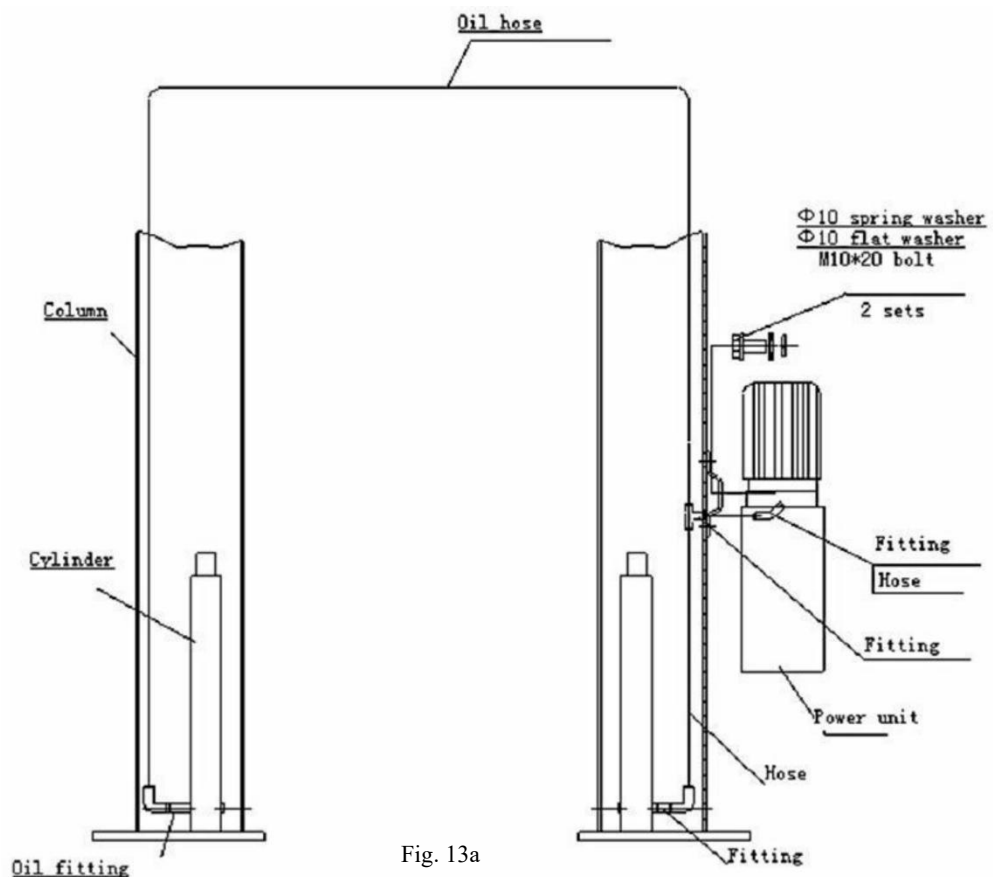
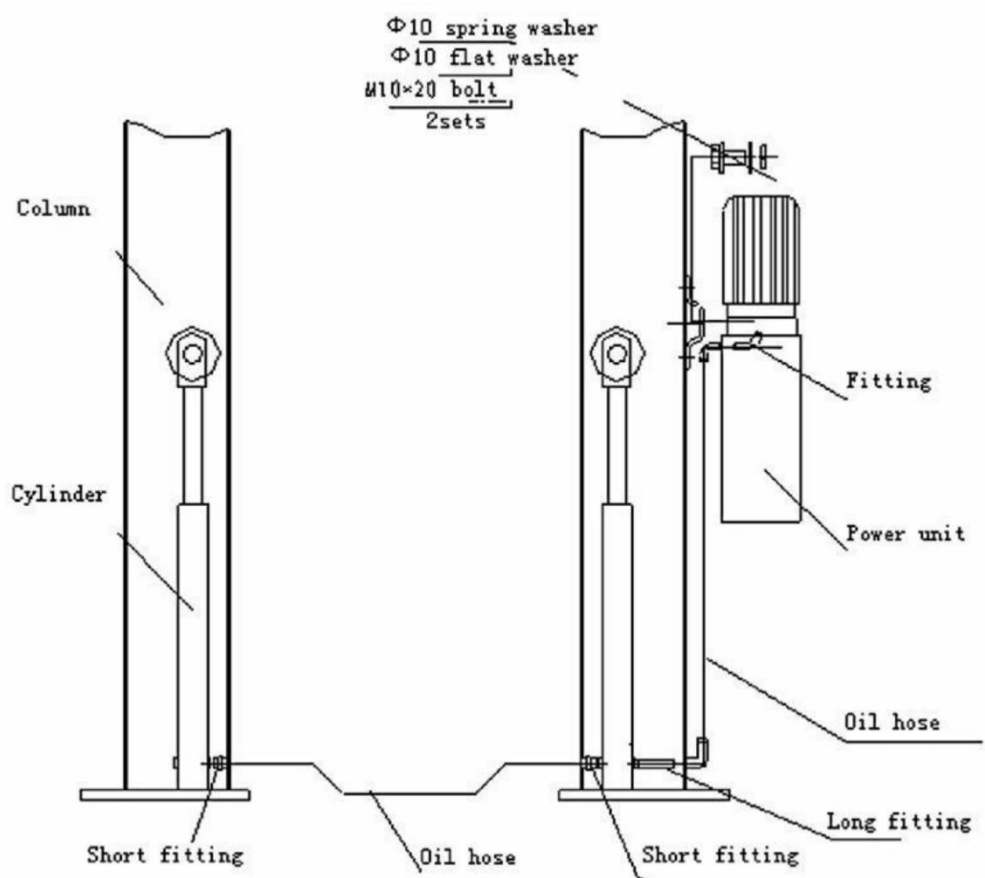

Fig. 13a
Fig. 13b
- Use two M10 Bolt s and washers to fix the power unit (as shown in Fig. 13a 、 13b). for KT-M110 models, install the hydraulic line as shown in Fig. 13a , for KT-H100 models, , install the hydraulic line as shown in Fig. 13b and tighten all the fittings top prevent oil leakage.